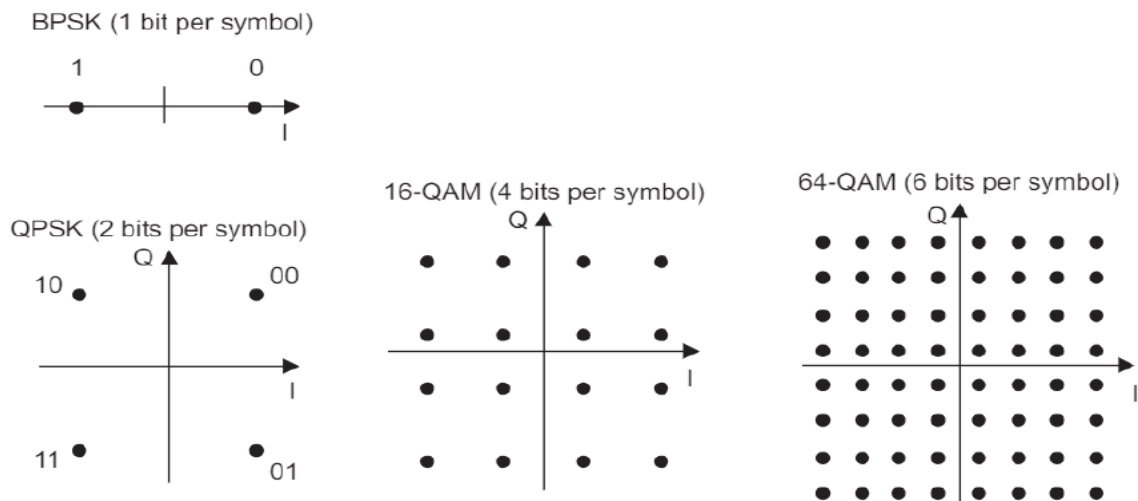

Fig 4.16: Modulation schemes used by LTE
- As shown in Fig. 4.16, LTE uses four modulation schemes altogether. Binary phase shift keying (BPSK) sends bits one at a time, using two states that can be interpreted as starting phases of 0° and 180° , or as signal amplitudes of +1 and -1.